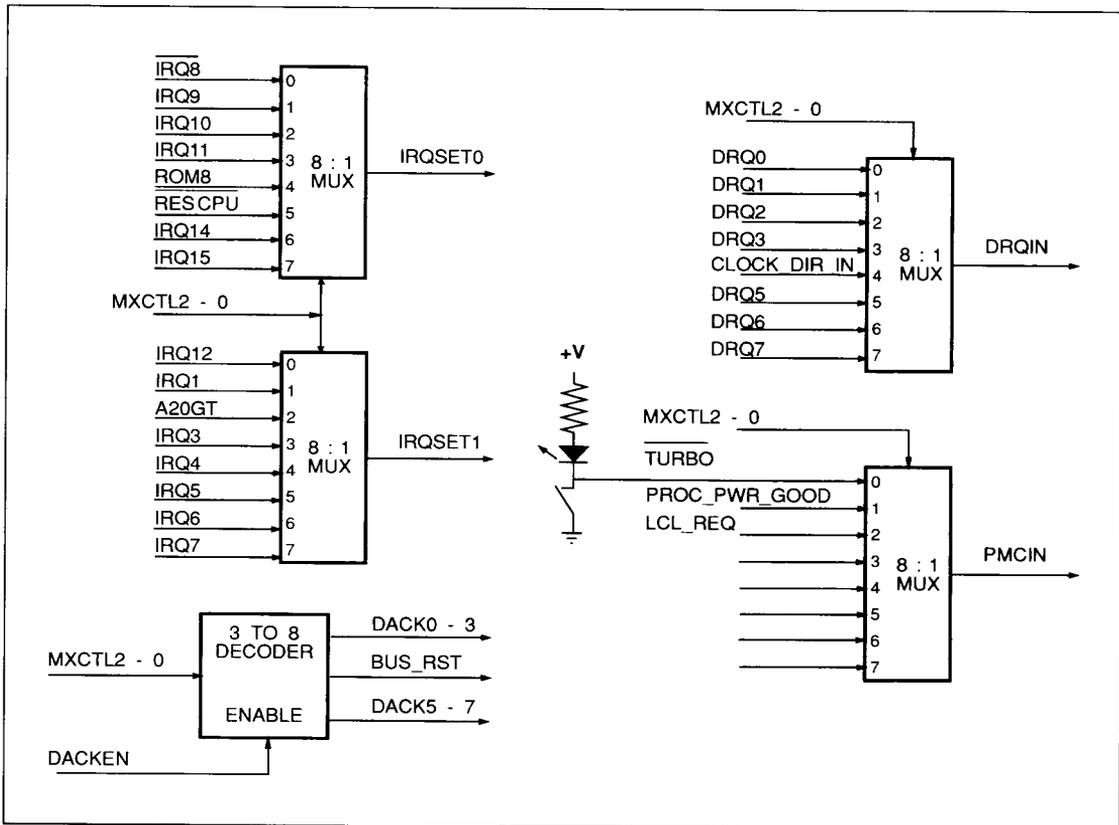

FIGURE 5-1. MXCTL2-0 MULTIPLEXING
* Based upon the value of CLOCK_DIR_IN at power up (refer to Table 5-1, Figure 5-1 and section 5.1.2).
To reduce the number of pins required, the System Controller generates and outputs the MXCTL2-0 and DACKEN signals used by external logic to multiplex the DACKs, DRQs and IRQs down to single inputs. See Figure 5-1.
Immediately following a System Reset ($\overline{\text{RSTIN}}$), DRQIN input 100 is sampled. If low, the processor clock (CPUCLK) pin is an output. If high, the CPUCLK starts as an output but is switched to an input shortly after $\overline{\text{RSTIN}}$ is de-asserted. See Table 5-1 and Figure 5-1. This controls the default value of CLK_SPD in the CPU Clock (CPUCLK) Control Register at Port 1072H. See section 4.2.4.
The Interrupt Requests are multiplexed by the WD76C30. The multiplexing is performed as shown in Table 5-1 and Figure 5-1, and provides the System Controller with the IRQSET1 and IRQSET0 signals.
The power control signals are placed on the PMCIN input pin by way of an eight to one multiplexer, controlled by the MXCTL2-0 signals from the System Controller. In the WD76C10A, the TURBO signal may be connected directly to PMCIN. In the WD76C10ALP/LV, the external 8:1 MUX is always used. See Figure 5-1. Bits 14 and 13 of Port 1872H (Section 5.3) control the power down of the processor and peripheral.
When a PMC interrupt occurs, PMC output 7 at Port 7072H is reset, enabling the power up sequence. A CPURES and BUS_RST (see Figure 5-1) are asserted until the PMCIN 01 PPG at Port 8872H input is high. The tristated outputs are restored and the inputs are no longer masked.